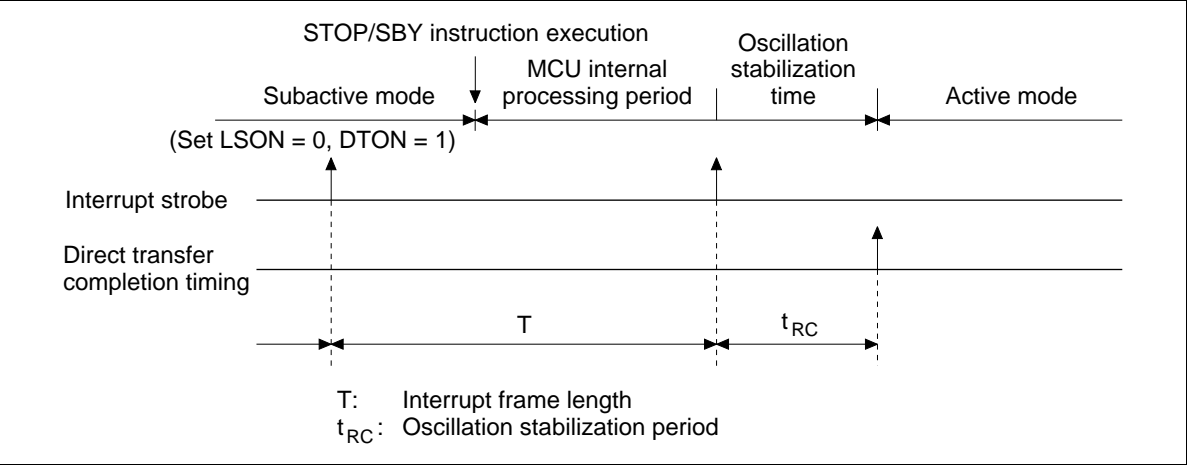

Figure 19 Direct Transition Timing
- 3. The MCU automatically enters active mode from subactive mode after waiting for the MCU internal processing time and oscillation stabilization time (figure 19).